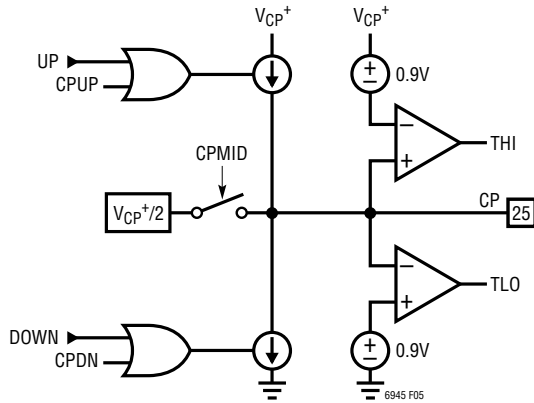

Figure 5. Simplified Charge Pump Schematic
The charge pump, controlled by the PFD, forces sink (DOWN) or source (UP) current pulses onto the CP pin, which should be connected to an appropriate loop filter. See Figure 5 for a simplified schematic of the charge pump.
The CPCHI and CPCLO bits found in register h0A enable the high and low voltage clamps, respectively. When CPCHI is enabled and the CP pin voltage exceeds approximately  $V_{CP+} - 0.9V$ , the TH1 status flag is set, and the charge pump sourcing current is disabled. Alternately, when CPCLO is enabled and the CP pin voltage is less than approximately 0.9V, the TLO status flag is set, and the charge pump sinking current is disabled. See Figure 5 for a simplified schematic.